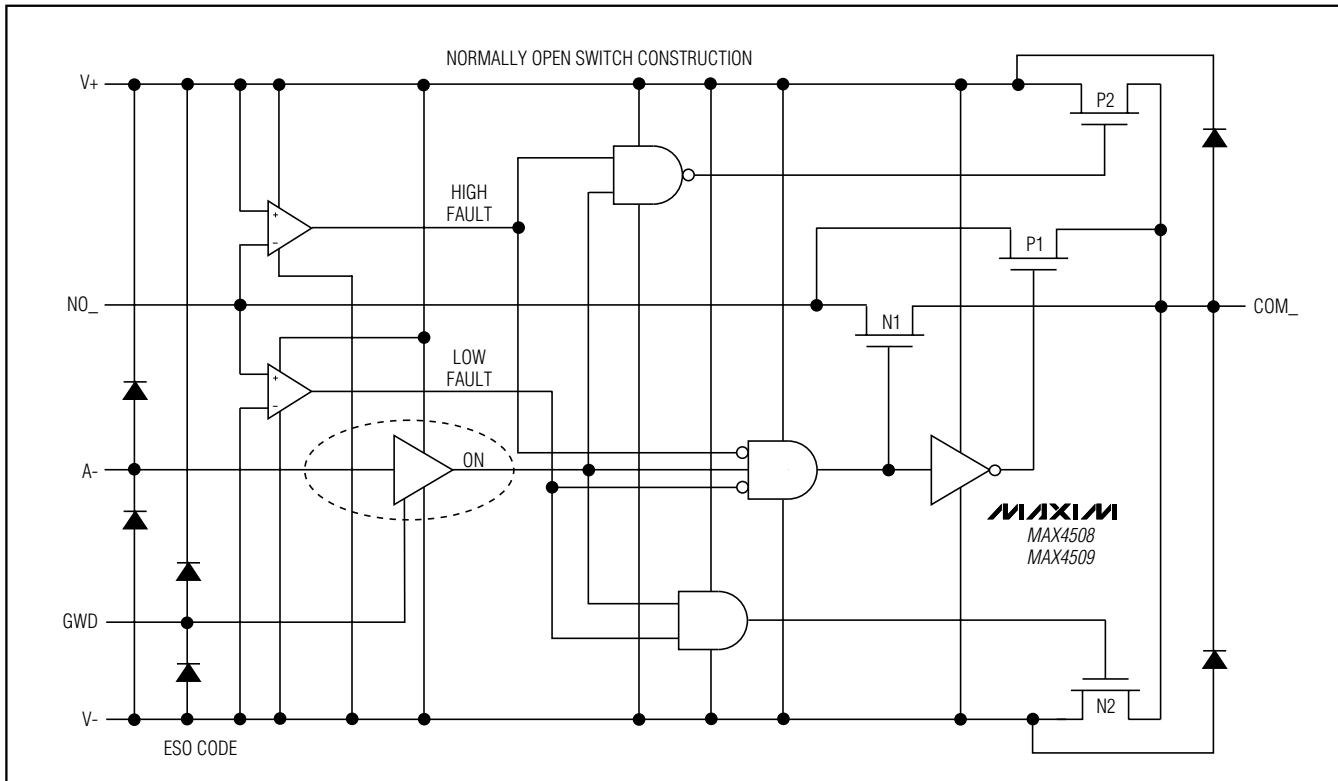

Figure 1. Functional Diagram
Figure 1 shows the internal construction, with the analog signal paths shown in bold. A single normally open (NO) switch is shown. The analog switch is formed by the parallel combination of N-channel FET N1 and P-channel FET P1, which are driven on and off simultaneously, according to the input fault condition and the logic level state.
Two comparators continuously compare the voltage on the NO1 pin with V+ and V- supply voltages. When the signal on NO1 is between V+ and V-, the multiplexer behaves normally, with FETs N1 and P1 turning on and off in response to A1 signals (Figure 1). The parallel
When the signal on NO- exceeds V+ by about 150mV, the positive fault comparator output goes high, turning off FETs N1 and P1 (Figure 1). This makes the NO- pin high impedance, regardless of the switch state. If the switch state is “off,” all FETs turn off, and both NO- and COM- are high impedance. If the switch state is “on,” FET P2 turns on, clamping COM- to V+.
When the signal on NO- goes about 150mV below V-, the negative fault comparator output goes high, turning off FETs N1 and P1 (Figure 1). This makes the NO- pin high impedance, regardless of the switch state. If the switch state is “off,” all FETs turn off, and both NO- and COM- are high impedance. If the switch state is “on,” FET N2 turns on, clamping COM- to V-.
FETs N2 and P2 can source about ±10mA from V+ or V- to the COM- pin in the fault condition (Figure 1). Ensure that if the COM- pin is connected to a low-impedance load, the absolute maximum current rating of 30mA is never exceeded, either in normal or fault conditions.